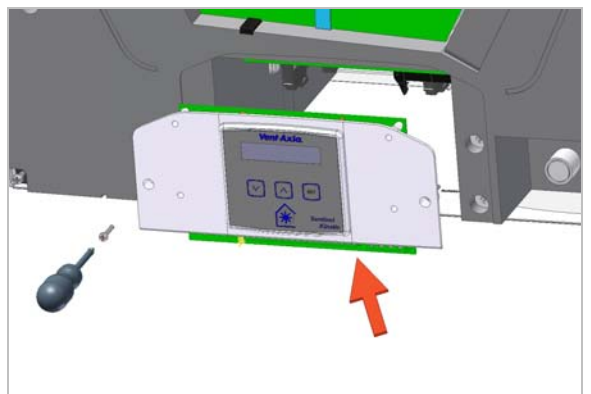

Figure 7: Detaching the Control Panel (Front of Unit)
4. Remove the 2 screws and detach the Control Panel (see *Figure 7*).